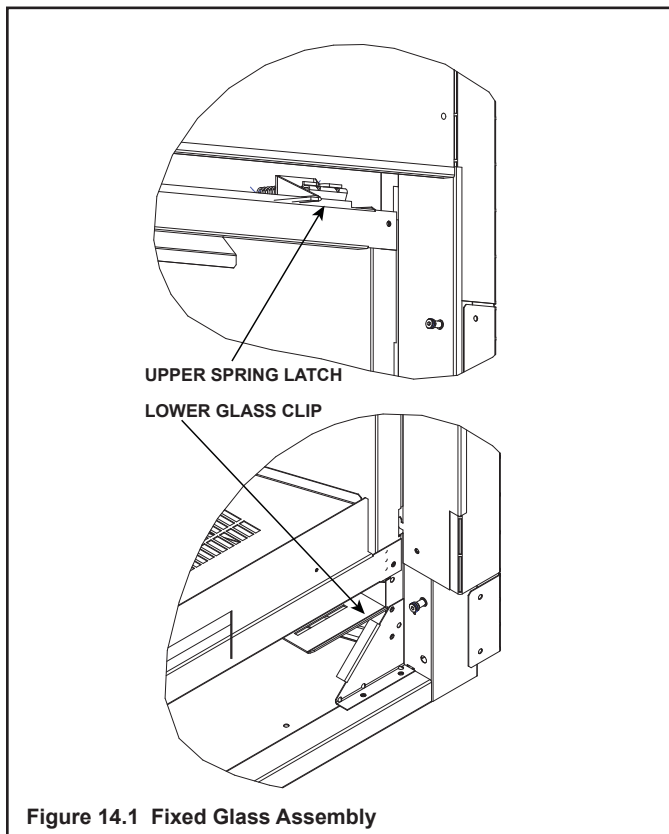

Figure 14.1 Fixed Glass Assembly
4. Put pressure on the glass as you allow the glass assembly to drop into the two lower glass clips. See Figure 14.1.